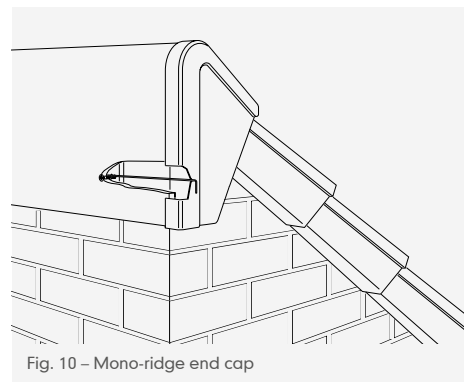

Fig. 10 – Mono-ridge end cap
- 18 Prior to fixing the gable end mono-ridge tile push the security wire through the outside face of the mono-ridge tile (using the same fixing hole for screwing the mono-ridge tile to the wall) and bend through 90° (Fig. 10).